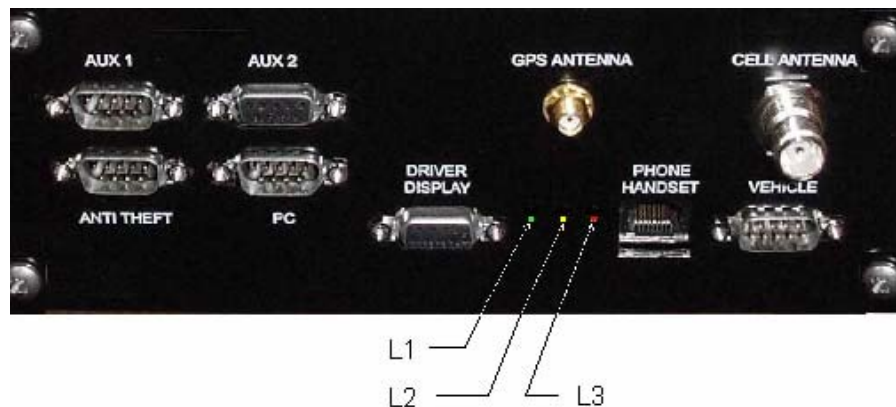

Figure 15: Status Lights on the Truck-Link CPU
- 2 Observe L1, L2 and L3 on the connector end of the Truck-Link CPU (see Figure 15, below).